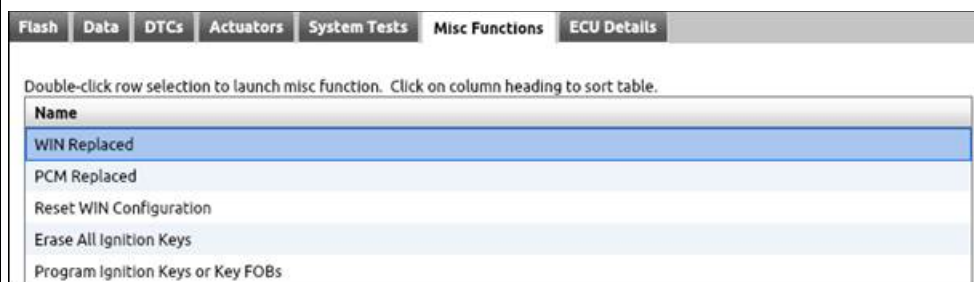

Figure 2
2. Select the Misc. Function tab and select WIN Replaced procedure (Figure 2).